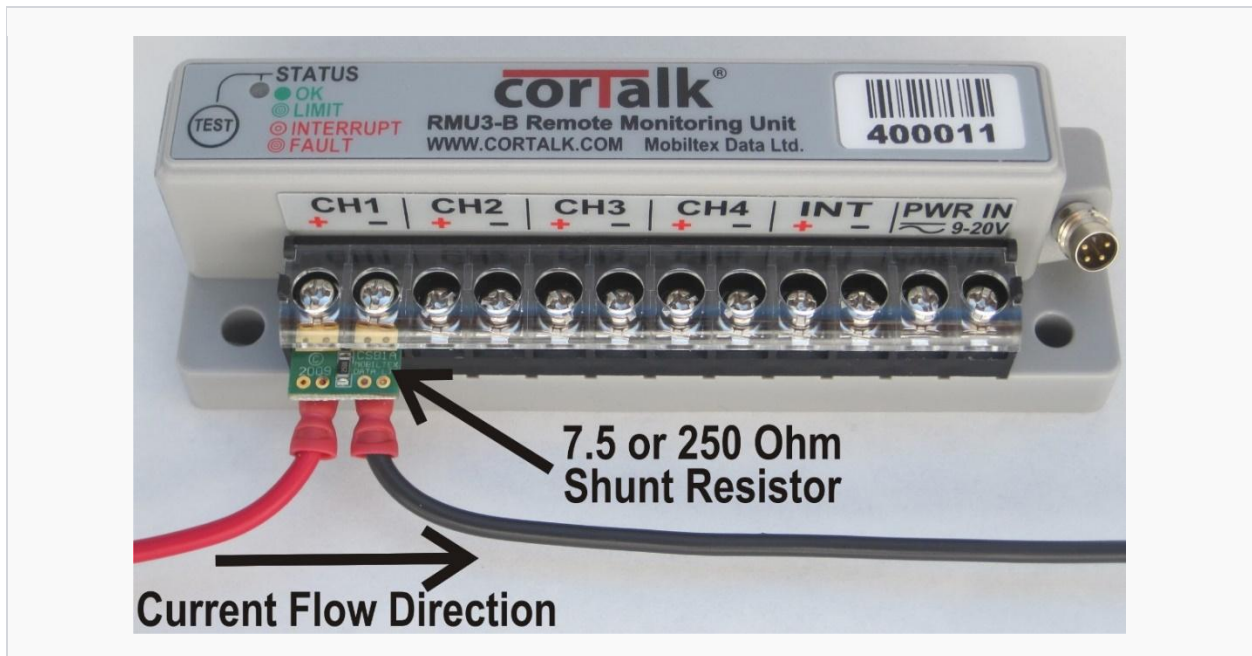

Figure 79 4-20mA Transducer Shunt Resistor Installation
- Enter the value of the resistor into the "Rext (Ohms)" field of the calculator. Attachment and current flow direction should be as shown in Figure 79.